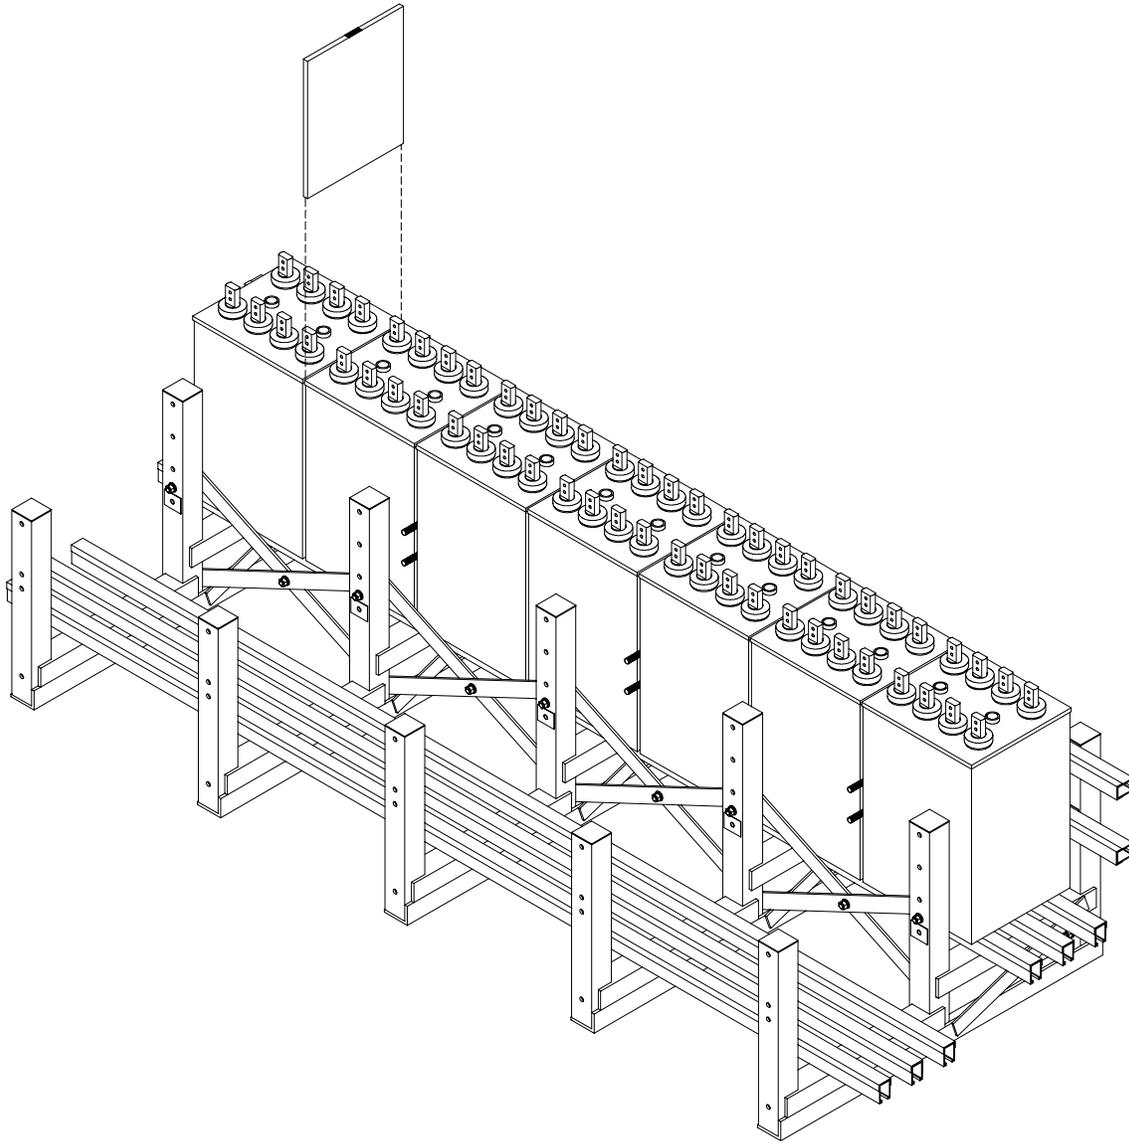
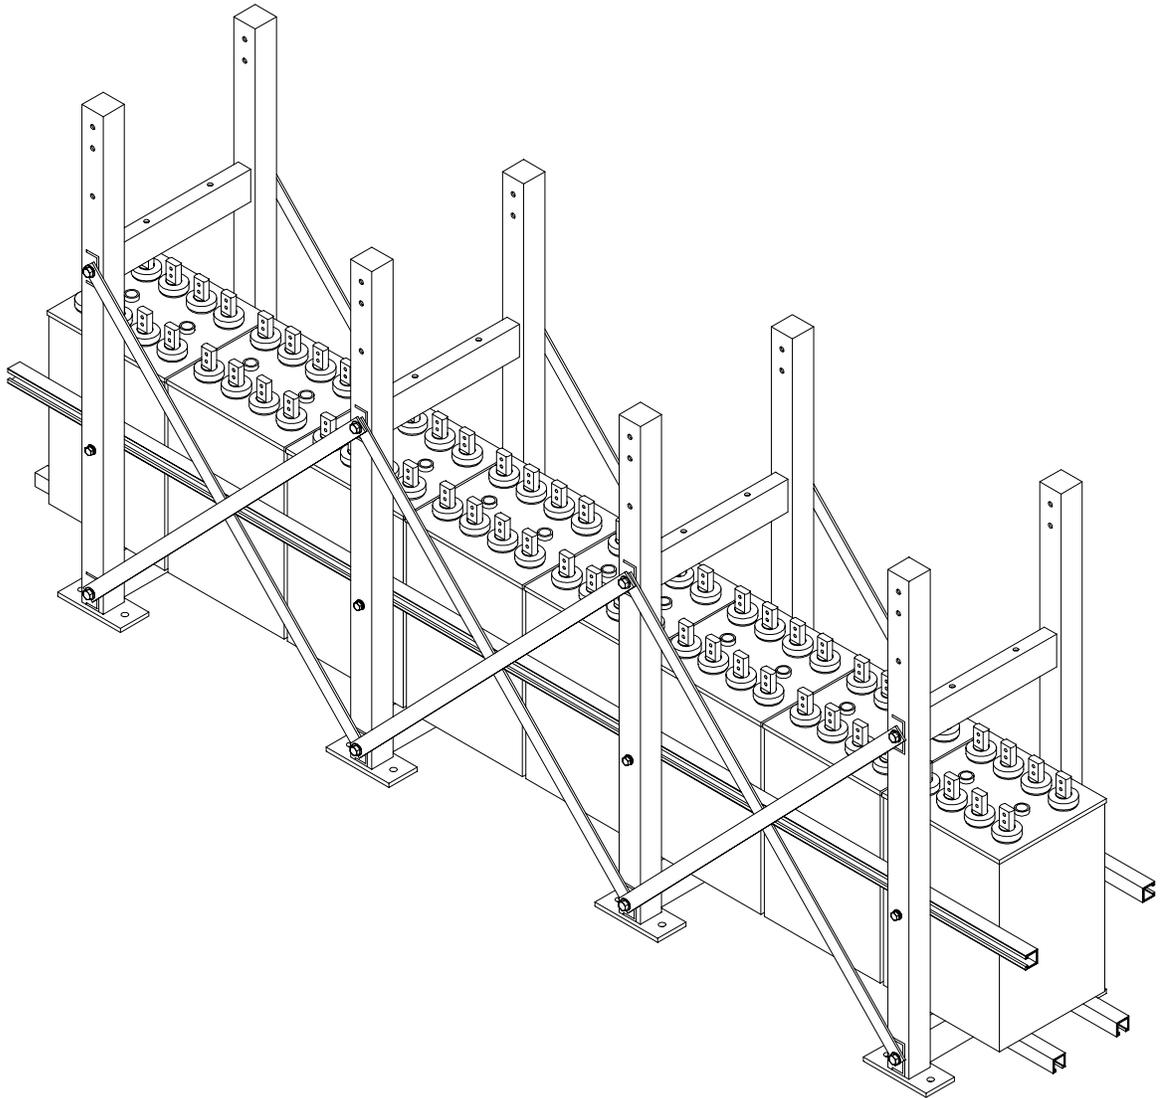

Figure 7.5a
Figure 7.5d
- Install cells on support rails, 2 tier racks should have the cells placed on the bottom tier first. The battery covers should be spaced approx. 0.38 in. (9.5 mm) apart to insure proper spacing for intercell connectors. See Figures 7.5a and 7.5b. After installing cells on the lower tier of a 2 tier rack, install front set of cross braces as instructed in Section 7.2. See Figure 7.5d.
- Foam spacers are to be installed between batteries where there is no cell clamp assembly. The black mark on the foam spacer edge should be facing the top of the cell. See Figures 7.5a and 7.5b.